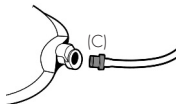

Figure 3-2
3. If a direct connect to hydration bladder is desired, install the second white connector (C) to the end of the output hose. This will match with many popular hydration systems. (Figure 3-2)